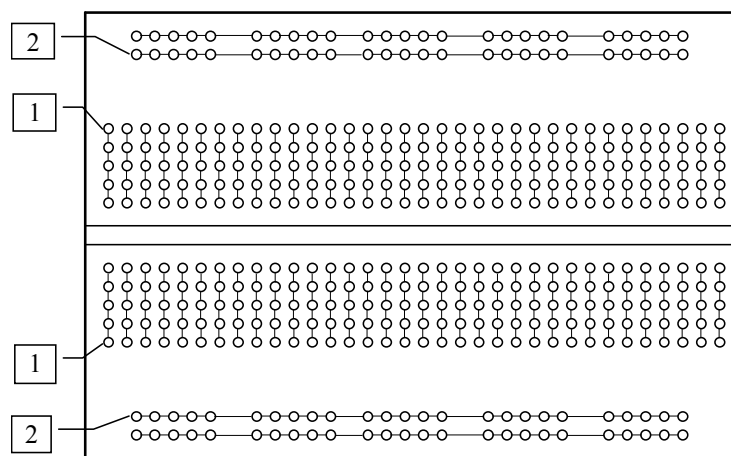
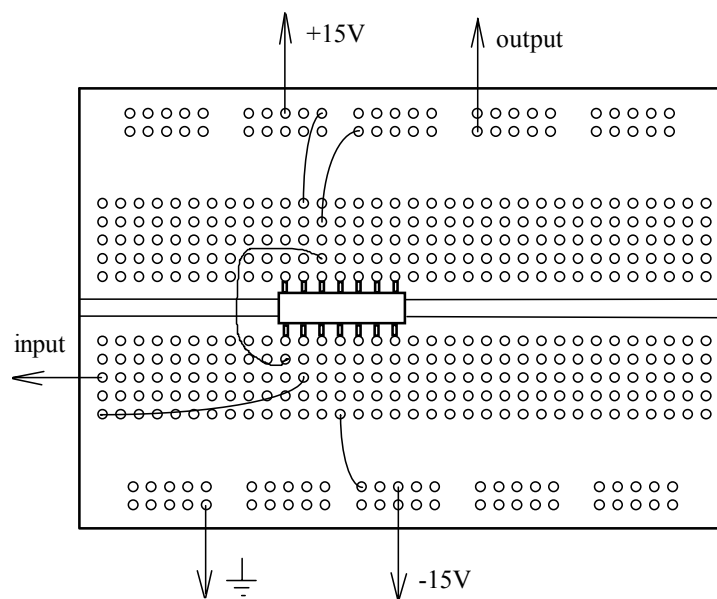

fig. 1. Electrical interconnection of terminals
fig. 2. Wire connection for voltage follower
All components are wired on a breadboard. Breadboard contains 32 by 2 sets of 5 electrically connected solderless terminals (1) that straddle both sides of a narrow center groove, and 4 sets of 25 electrically connected terminals (2) along the edges. The center group of 5 electrically connected terminals accommodate the integrated circuit chips and permit 4 additional connections to be made at each pin of the integrated circuit chip. Figure 1 shows electrical interconnection of terminals. Figure 2 shows the example of wire connection. The scheme of voltage follower is wired up.